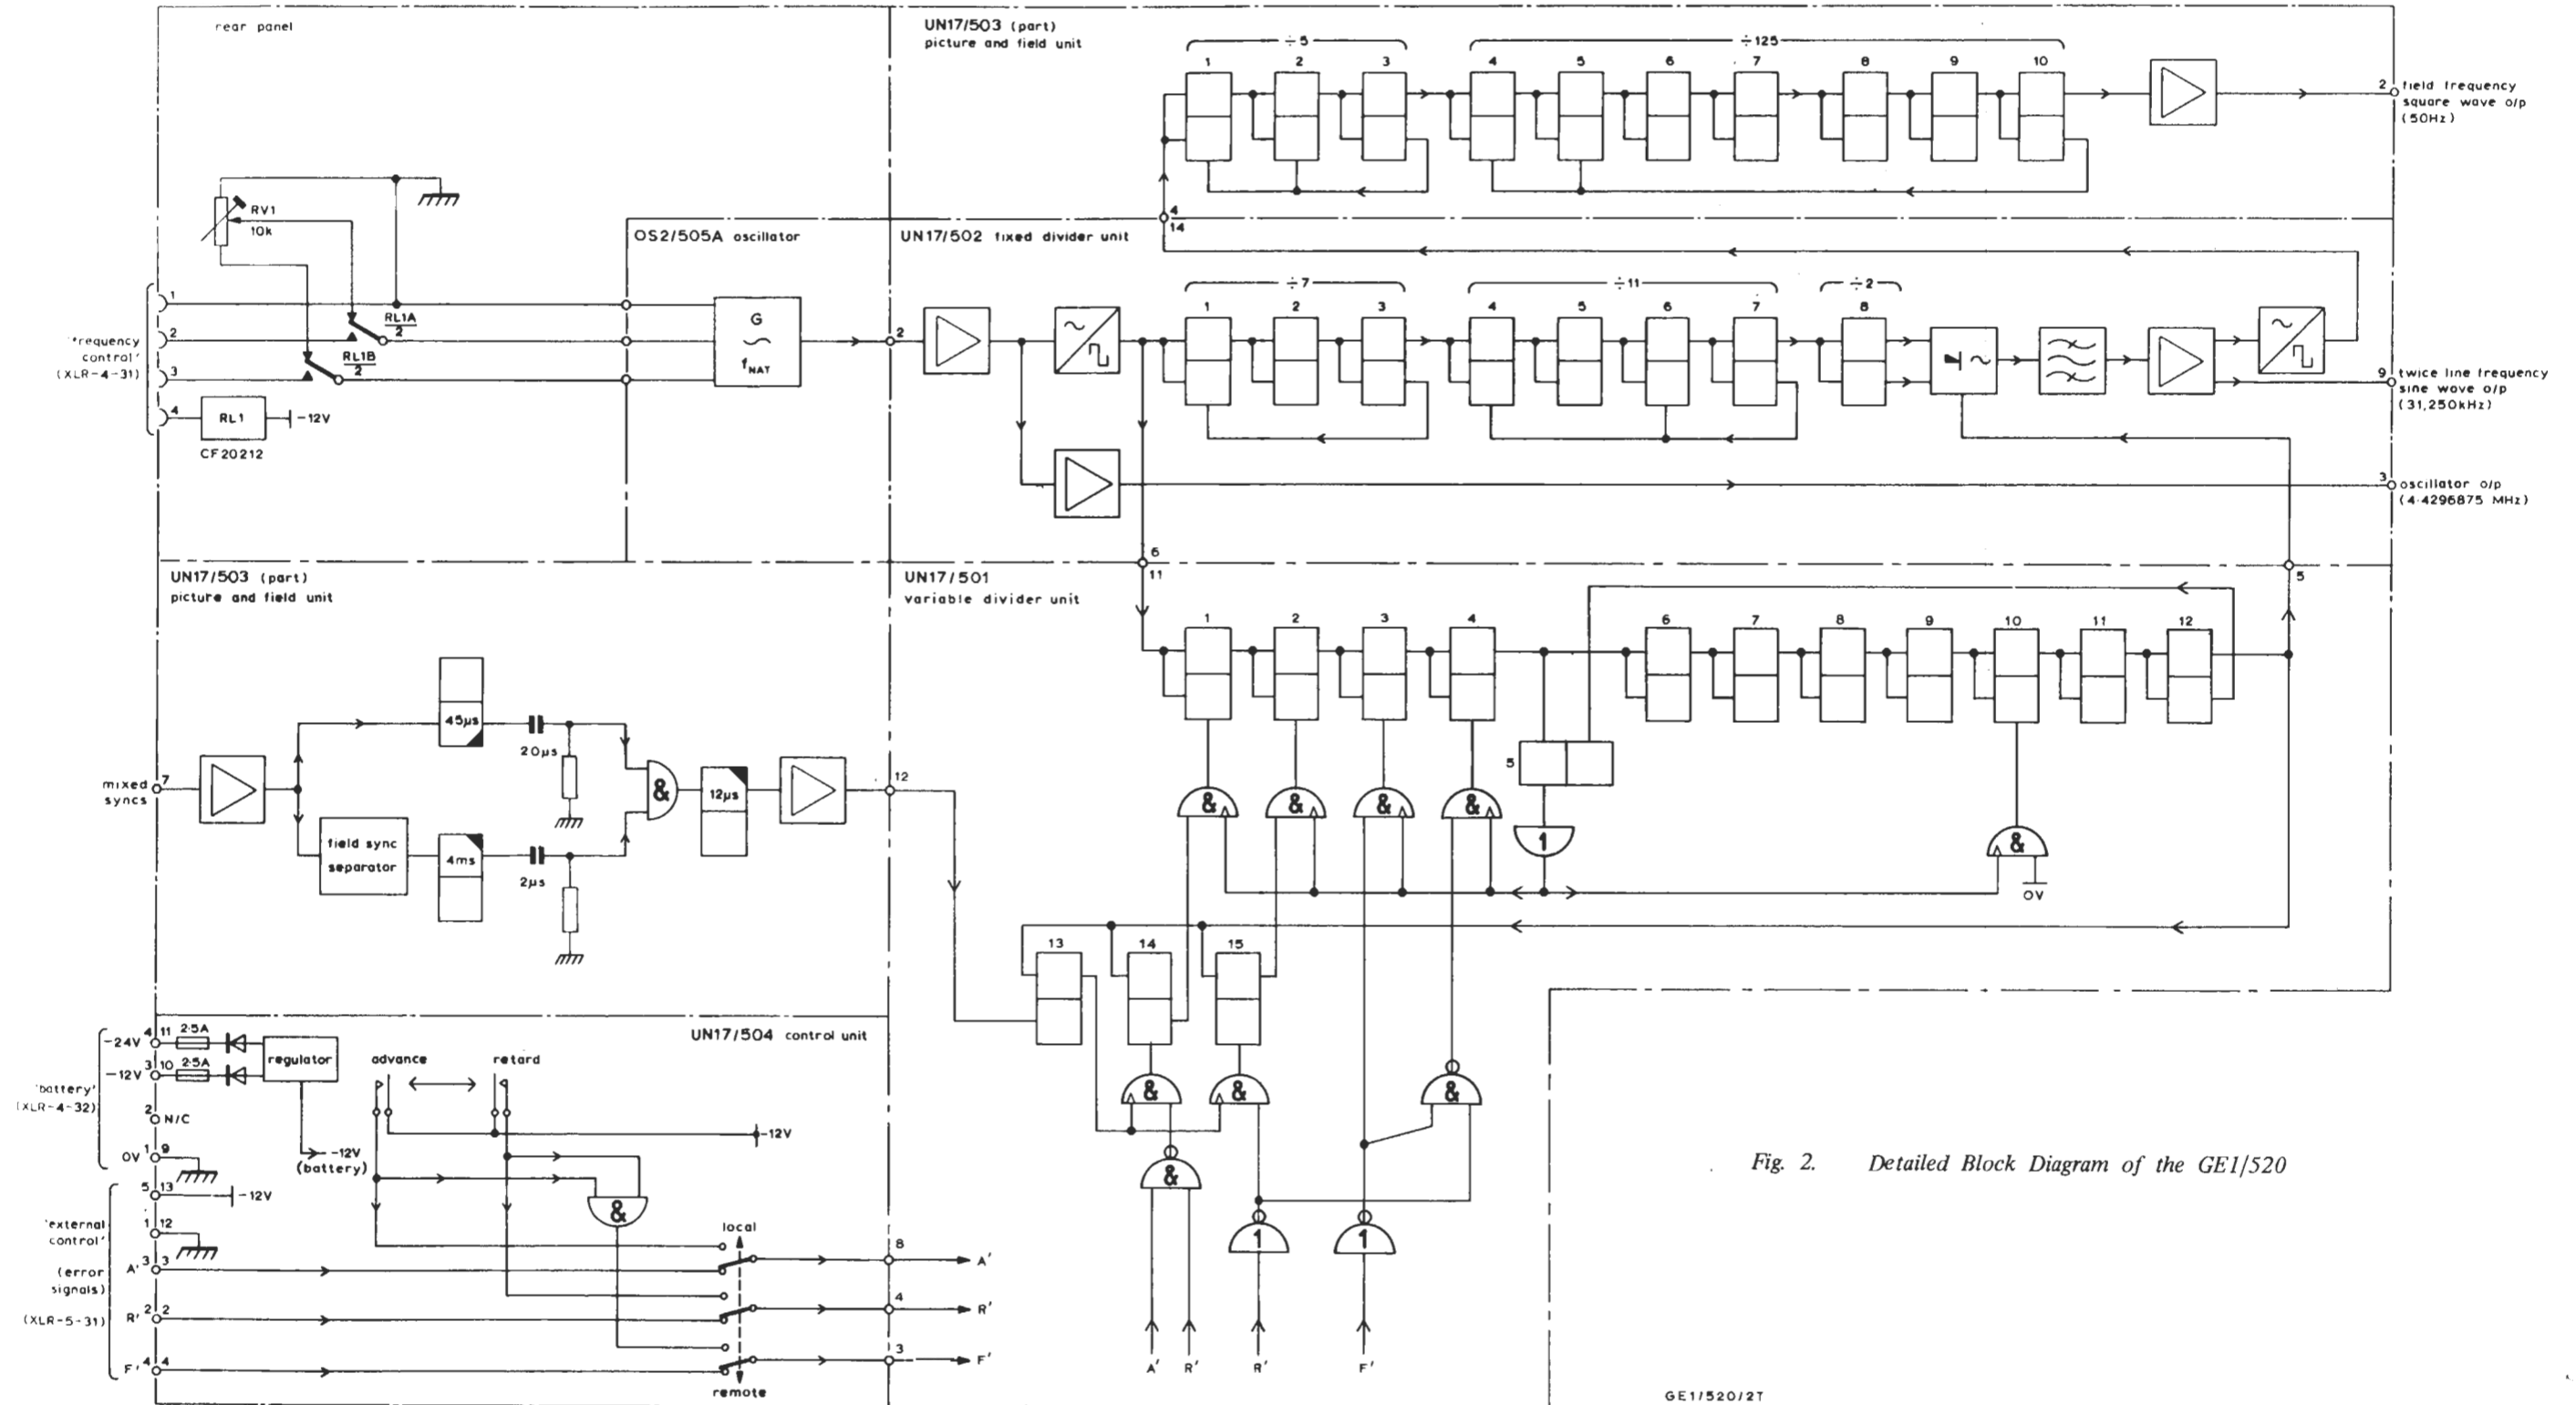
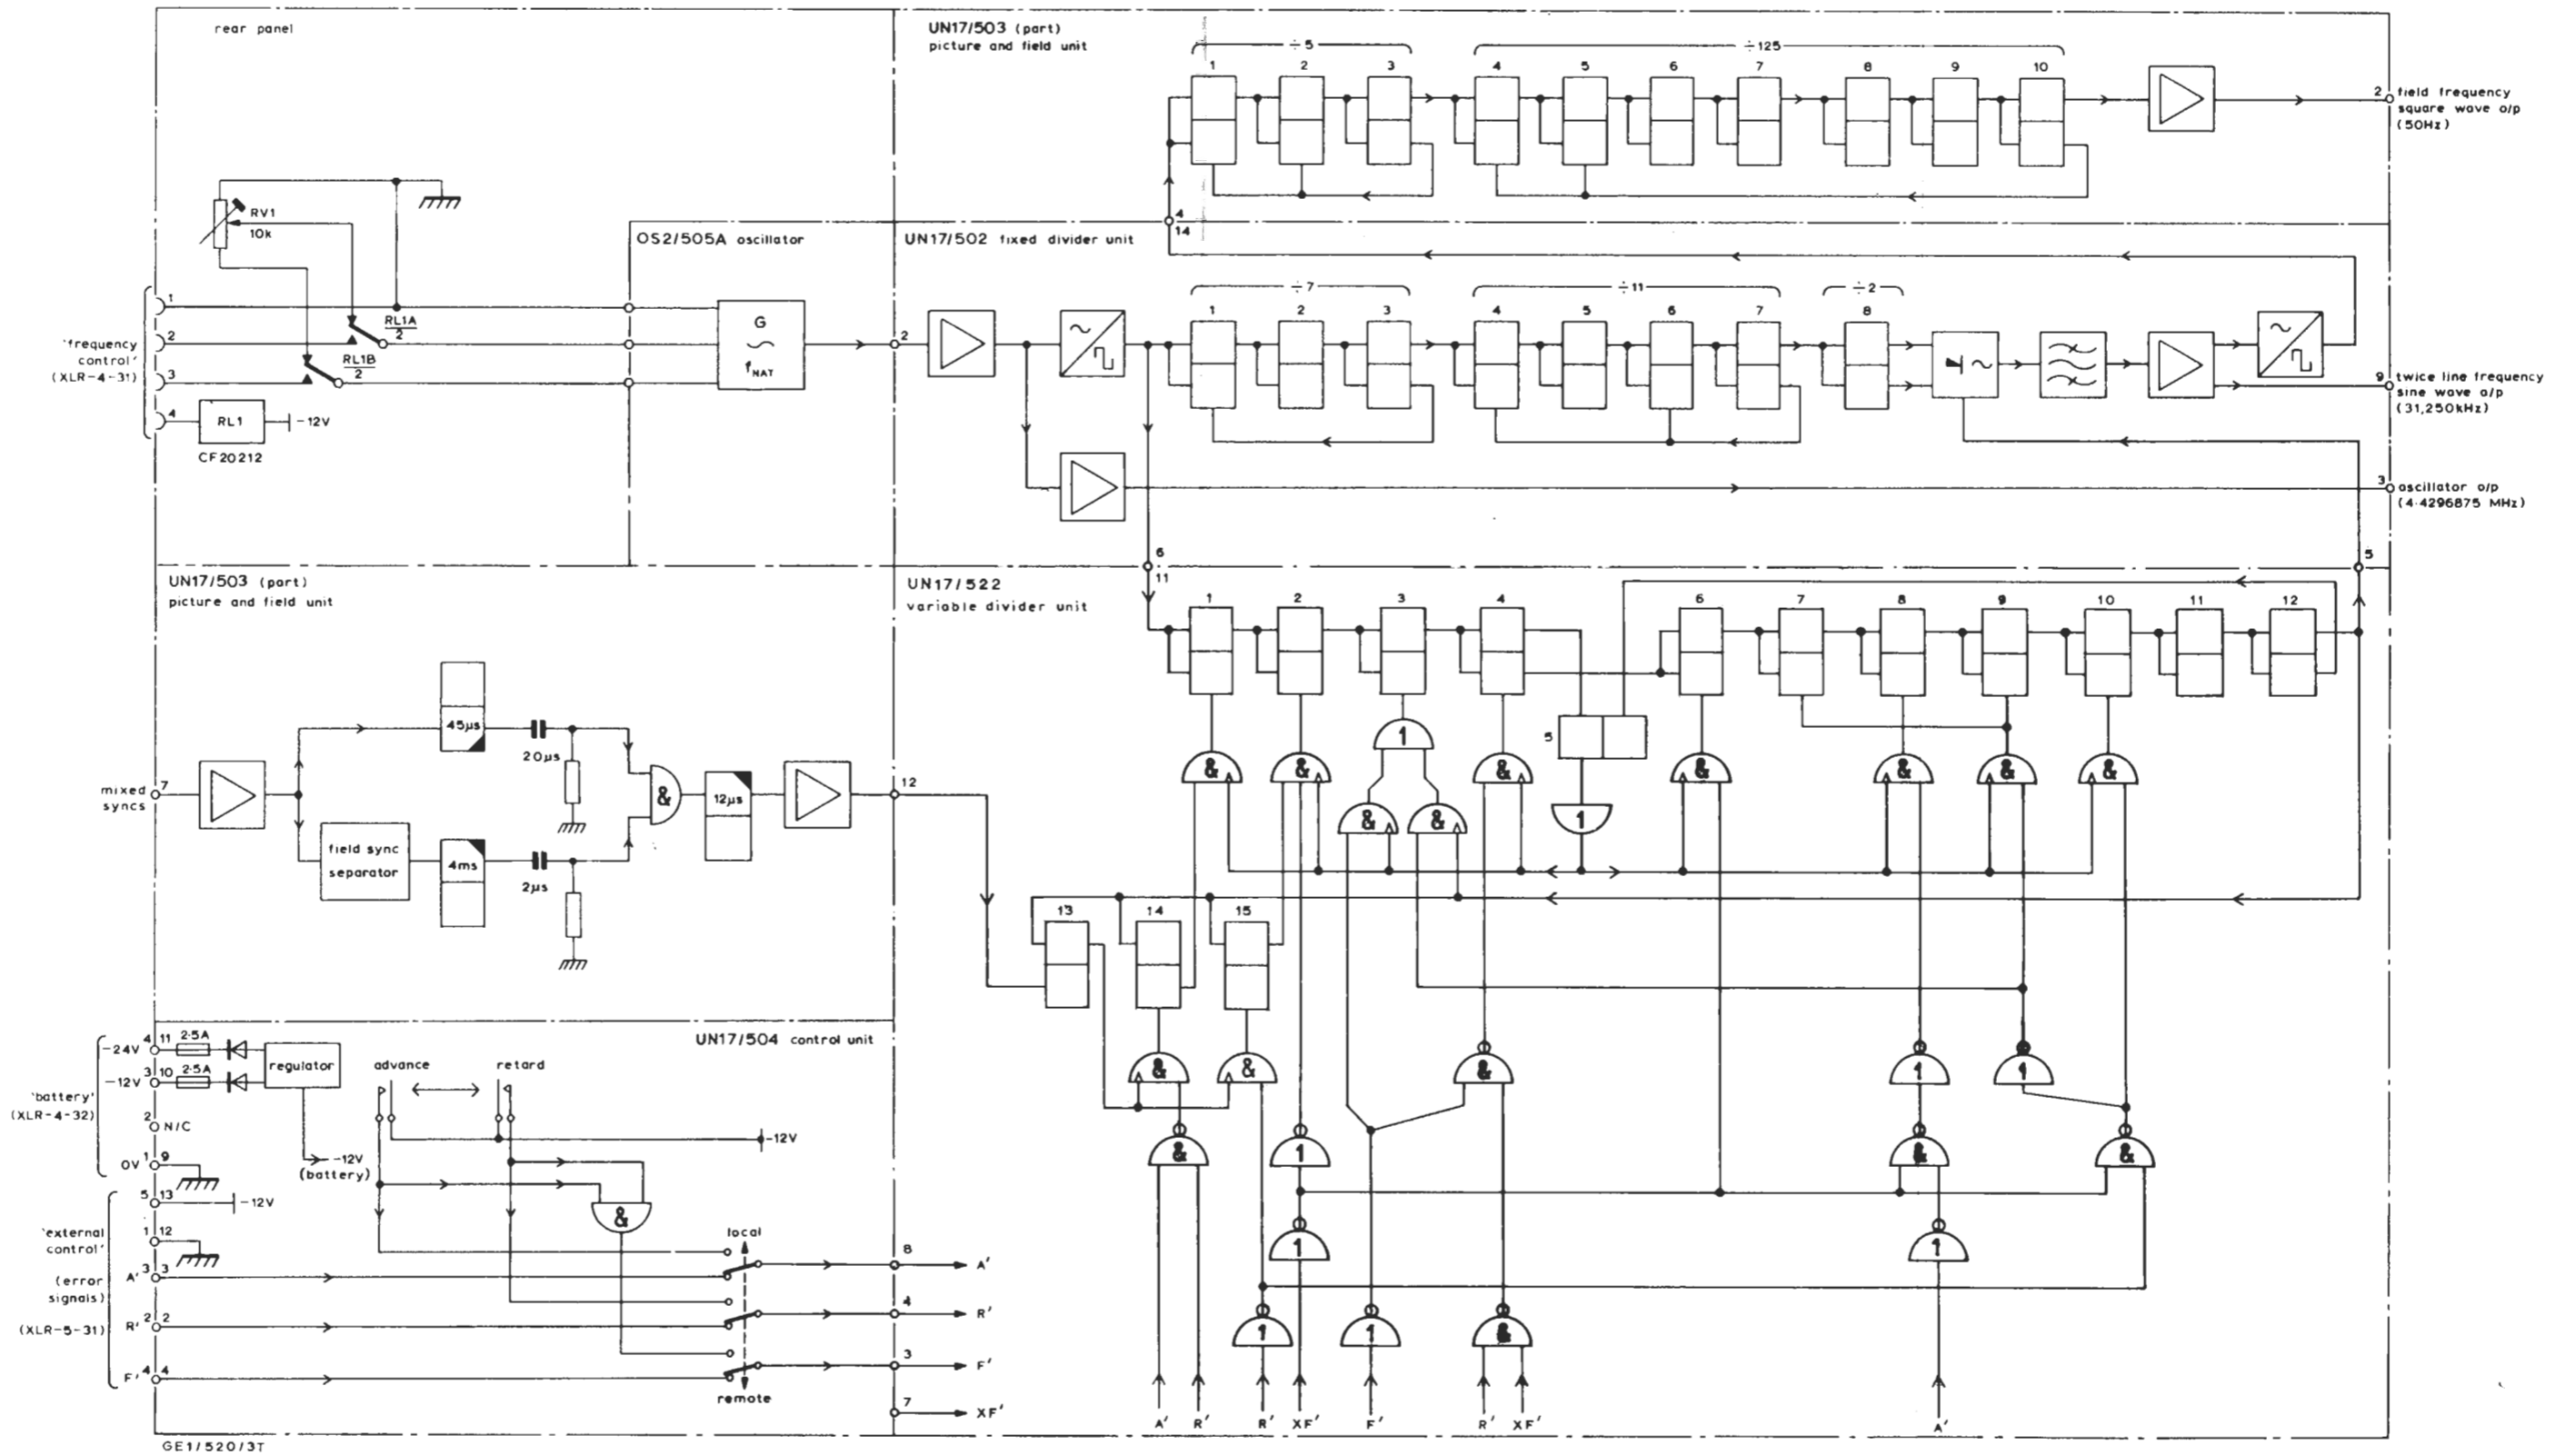

Fig. 2. Detailed Block Diagram of the GE1/520
Fig. 3. Detailed Block Diagram of the GE1/520A
Fig. 2 shows a more detailed block diagram of the GE1/520 and Fig. 3 of the GE1/520A.
5. Measure the frequencies at the Q terminals of the Bistable Units (see Figs 2. or 3. The correct values are shown in Table 3.